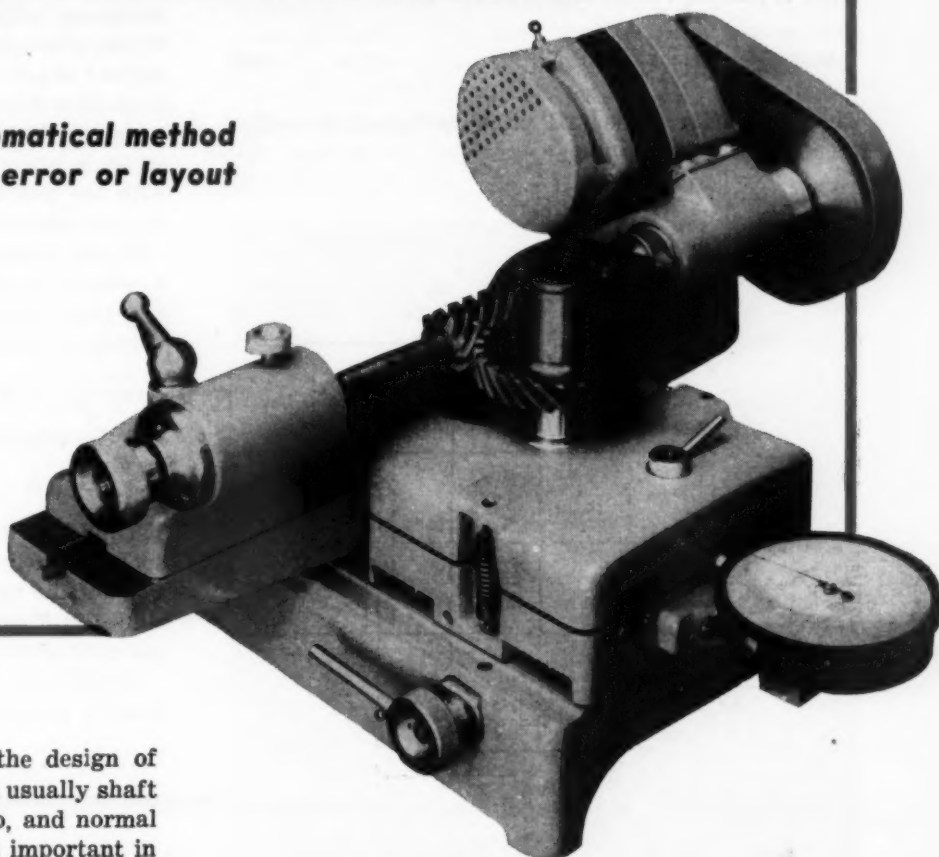

Fig. 1—A pair of right-angle helical gears, shown being checked for runout in a worm-rolling fixture
**Mechanical Construction:** The actual mechanism is shown in Fig. 1. The aluminum baseplate is ground for flatness. All linkage parts, except shafts, bearings and hardware, are also aluminum. The two input shafts are supported on radial ball bearings. To minimize backlash, two bearings are used with each shaft and preloaded through the inner races by a bowed retaining ring. Standard ball bushings form the slides. Two bushings are carried by a bracket, which is doweled
**ADJUSTABILITY:** Shown in *Fig. 13* is a cavity-tuning mechanism with provisions included for making adjustments. Three parameters are adjustable: link length, crank radius and crank angle. Except for the adjustment features and the slide details, this linkage is similar to the one shown in *Fig. 1*. The link is made in the form of a turnbuckle, and attached to the slide by a pivot-bearing type joint. A radial-bearing type joint is used at the crank end. Adjustment in the length of the link is made by turning the barrel of the turnbuckle, checknuts being provided to lock the barrel. A short slide is provided at the end of the crank, attached to the carriage of which is the pin carrying one end of the link. By moving the carriage in or out, the radius of the crank is varied. This is accomplished by turning a screw, which is threaded into the carriage, against the action of a small compression spring. A clamp is provided to lock the carriage in position. The hub of the crank is attached to a shaft by means of an integral split clamp. Pinned to the shaft above the hub is a collar carrying two adjusting screws. These screws engage a flat portion of the hub. By loosening the clamp and turning one adjustment screw opposite to the other, the crank may
**G**IVEN conditions most useful in the design of skew-axis helical gears, Fig. 1, are usually shaft angle, center distance, speed ratio, and normal diametral pitch. Position of the axes is important in any design, and normal diametral pitch is best selected to suit available generating tools. Unfortunately, however, this set of conditions leads to an indeterminate equation for the evaluation of remaining conditions necessary in design.